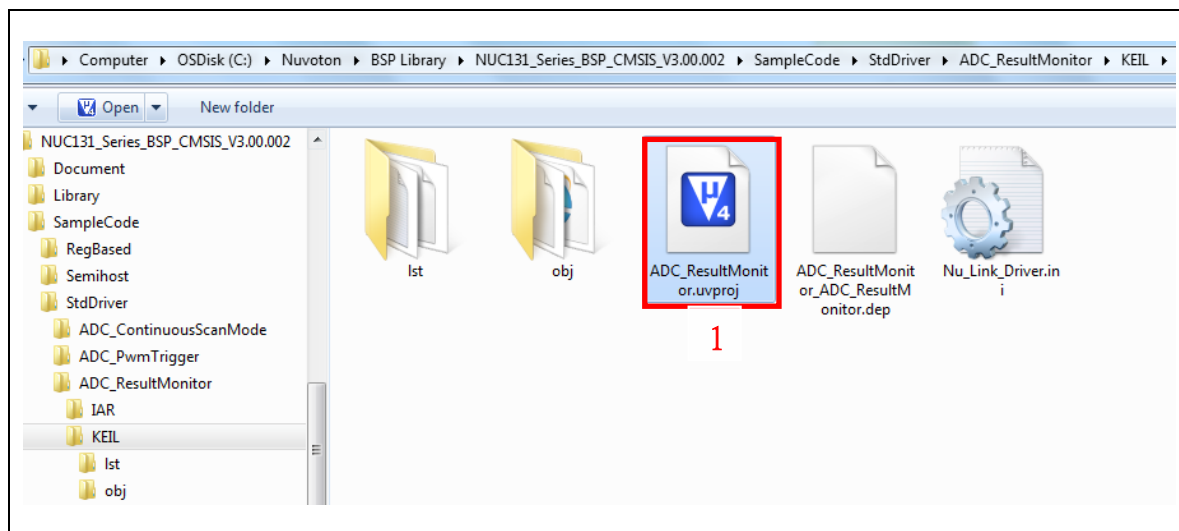

Figure 6-8 ADC Sample Code Path
- Open the SYS.uvproj project file (Step 1 in Figure 6-8)